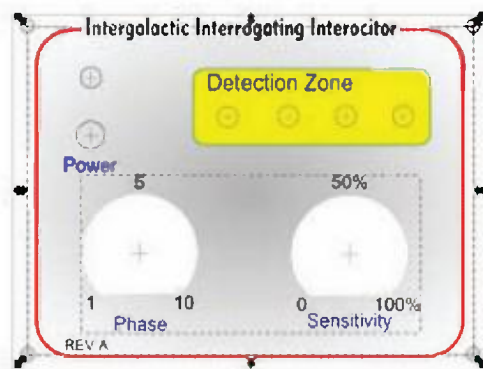

Figure 17. Align the dial faces by first selecting the panel outline, then the grouped potentiometer dials. Click on the Center Objects Horizontally icon.
Figure 16. Align the potentiometer dial faces by first selecting all the objects in each set. Then, group each set of objects. Select the two groups, and make one group of the pair. See Figure 17 to complete the task.
3. Align the dials to the panel by first selecting the panel outline (remember, this makes it the "anchor"), then selecting the pair of dials. Align the objects horizontally (**Figure 17**).